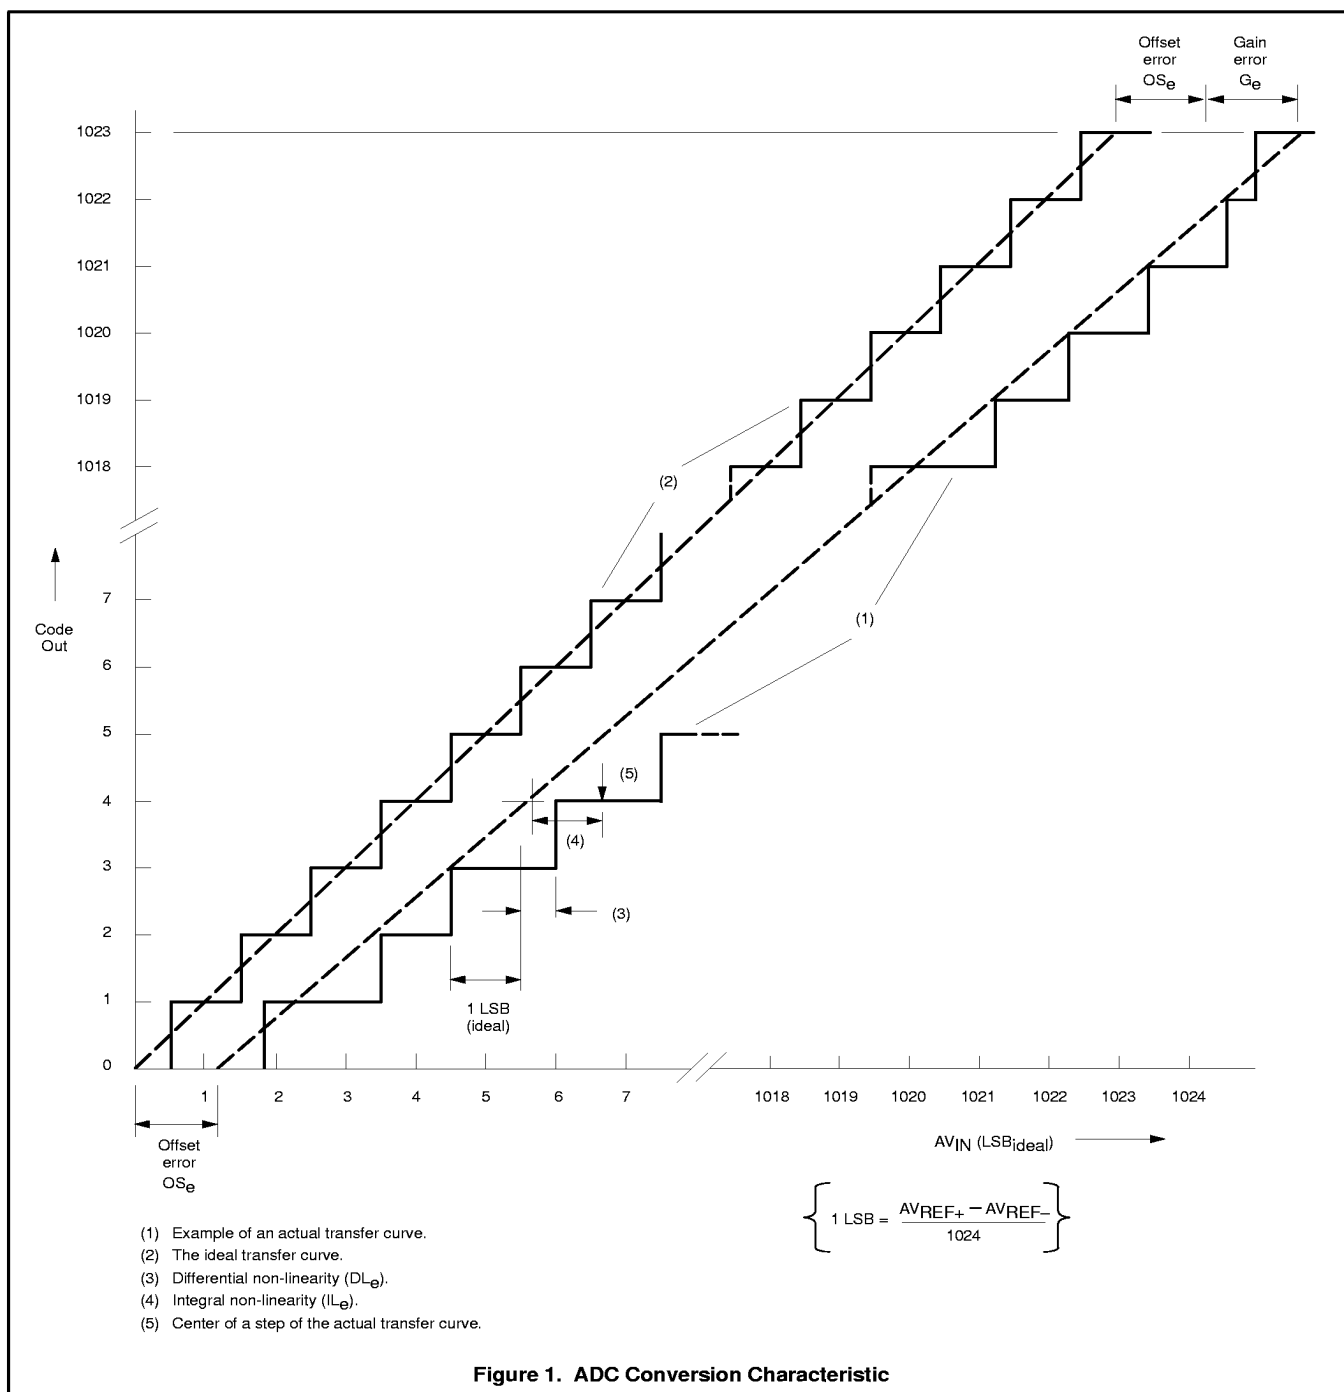

Figure 1. ADC Conversion Characteristic
- The differential non-linearity (DL_e) is the difference between the actual step width and the ideal step width. (See Figure 1.)
13. The integral non-linearity (IL_e) is the peak difference between the center of the steps of the actual and the ideal transfer curve after appropriate adjustment of gain and offset error. (See Figure 1.)
14. The offset error (OS_e) is the absolute difference between the straight line which fits the actual transfer curve (after removing gain error), and a straight line which fits the ideal transfer curve. (See Figure 1.)
15. The gain error (G_e) is the relative difference in percent between the straight line fitting the actual transfer curve (after removing offset error), and the straight line which fits the ideal transfer curve. (See Figure 1.)